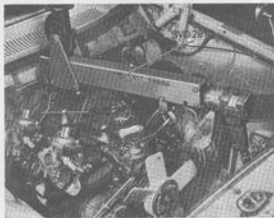

Fig. 2-16. Lifting out engine
11. Drain the engine oil. Remove the lower nuts from the engine front mountings. Fit the engine hoist unit with lifting beam 2810 and move the block runner to the rear end of the lifting beam, see Fig. 2-16. (Use a nut puller for this adjustment.)